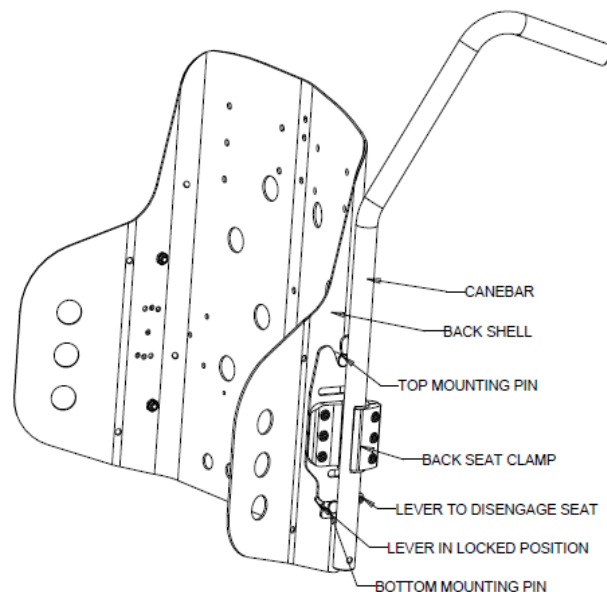

FIGURE 8
- IV. Lower mounting pins will automatically eject from the mounting plates (see Fig. 8 below)